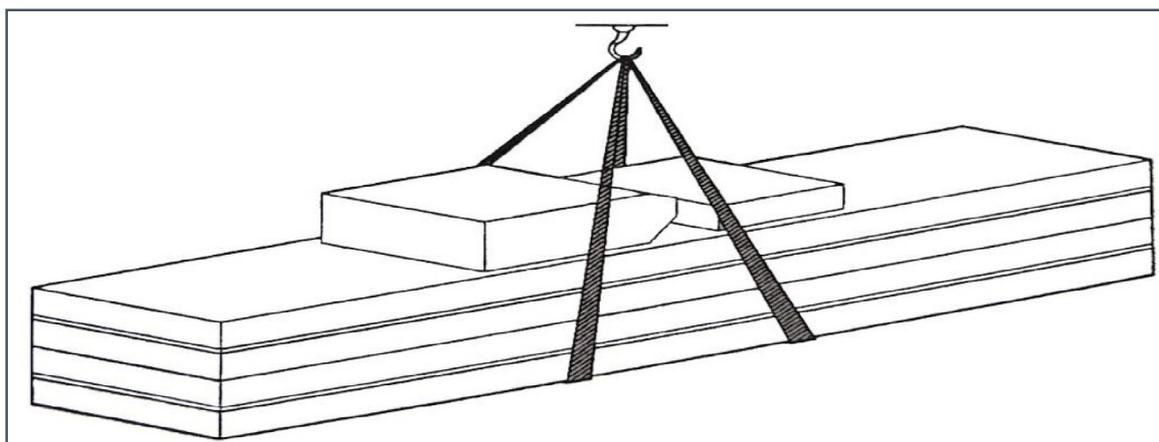

figure 2
### TRANSPORT (Figure 2)
**The packaging must be handled like shown in figure 2, especially during operations of loading and unloading with non standard equipment such as forklifts.**